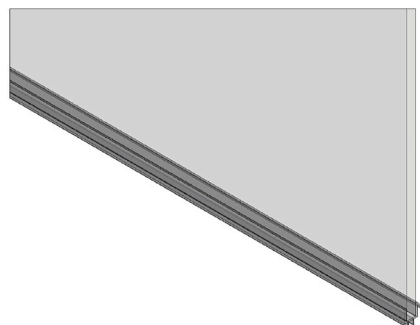

FIGURE 29A
ZV 952 Bottom Sweep (L) - This is attached by pressing it on bottom of door while door is open. Wood block should have been removed. (See Figure 29A)